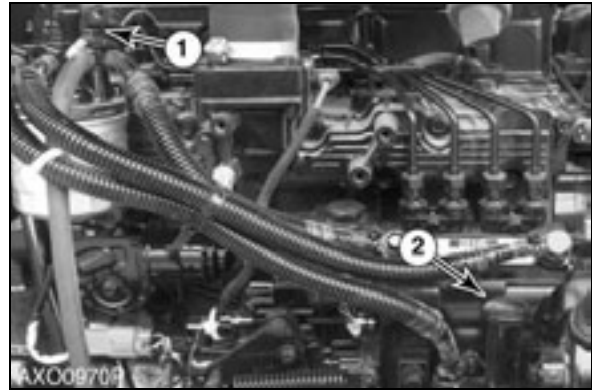

Figure 60
1. Loosen plug (1, Figure 60) on top of fuel filter.
2. Unscrew and pump the hand operated primer pump (2, Figure 60) on fuel injection pump. Pump primer until fuel is present at plug hole in fuel injection pump.